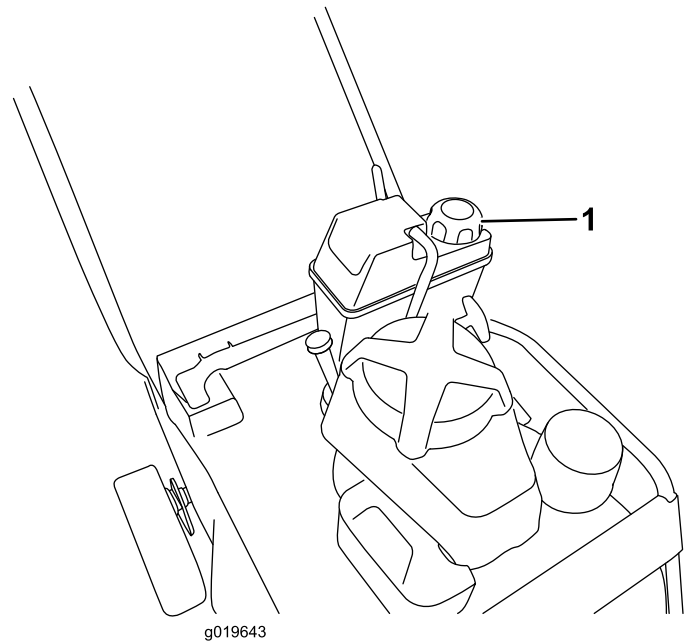

Figure 15
1. Clean around the fuel-tank cap (Figure 15).